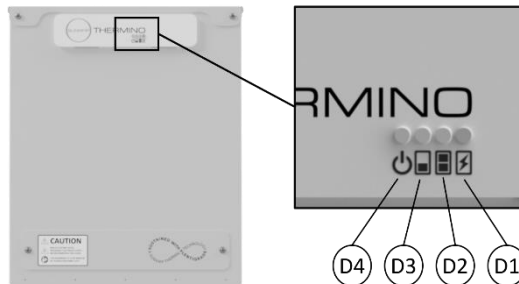

Figure 12 – Thermino ePlus Heat Battery LED operation
7. Check the front of the Heat Battery to ensure that the “power” and “heating element” LEDs are lit (see Figure 12 & Table 9).